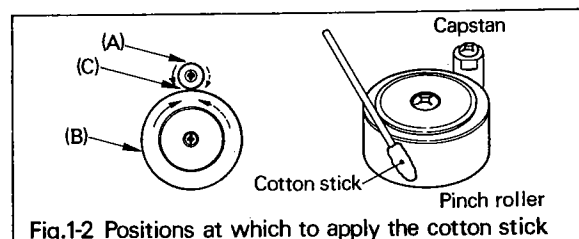

Fig.1-2 Positions at which to apply the cotton stick
- 2) Wipe the capstan and pinch roller while they are revolving. To do this, push the PLAY BUTTON (46) and start the tape recorder. Since there is no tape, however, the auto shut-off switch will be activated. Now, push the auto shut-off switch gently, and the capstan sleeve and pinch roller will begin to revolve. Take a cotton swab stick soaked with the cleaning liquid, and apply it to the capstan sleeve as illustrated in Fig. 1-2 (A), and then to the pinch roller as illustrated in Fig. 1-2 (B). The position shown by dotted lines as (C) is dangerous and must be avoided.